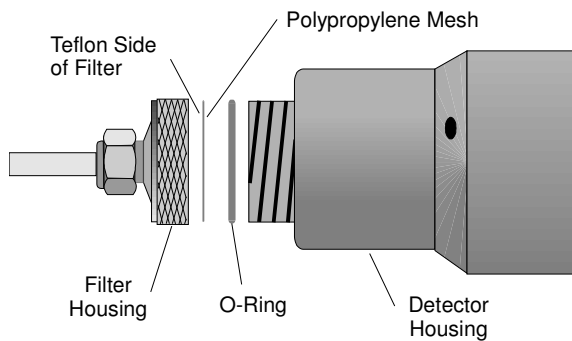

Figure 23 Inlet Filter
1. Turn the instrument off. Unscrew the filter housing from the detector housing. Be careful not to lose the O-ring seal. See Figure 23.